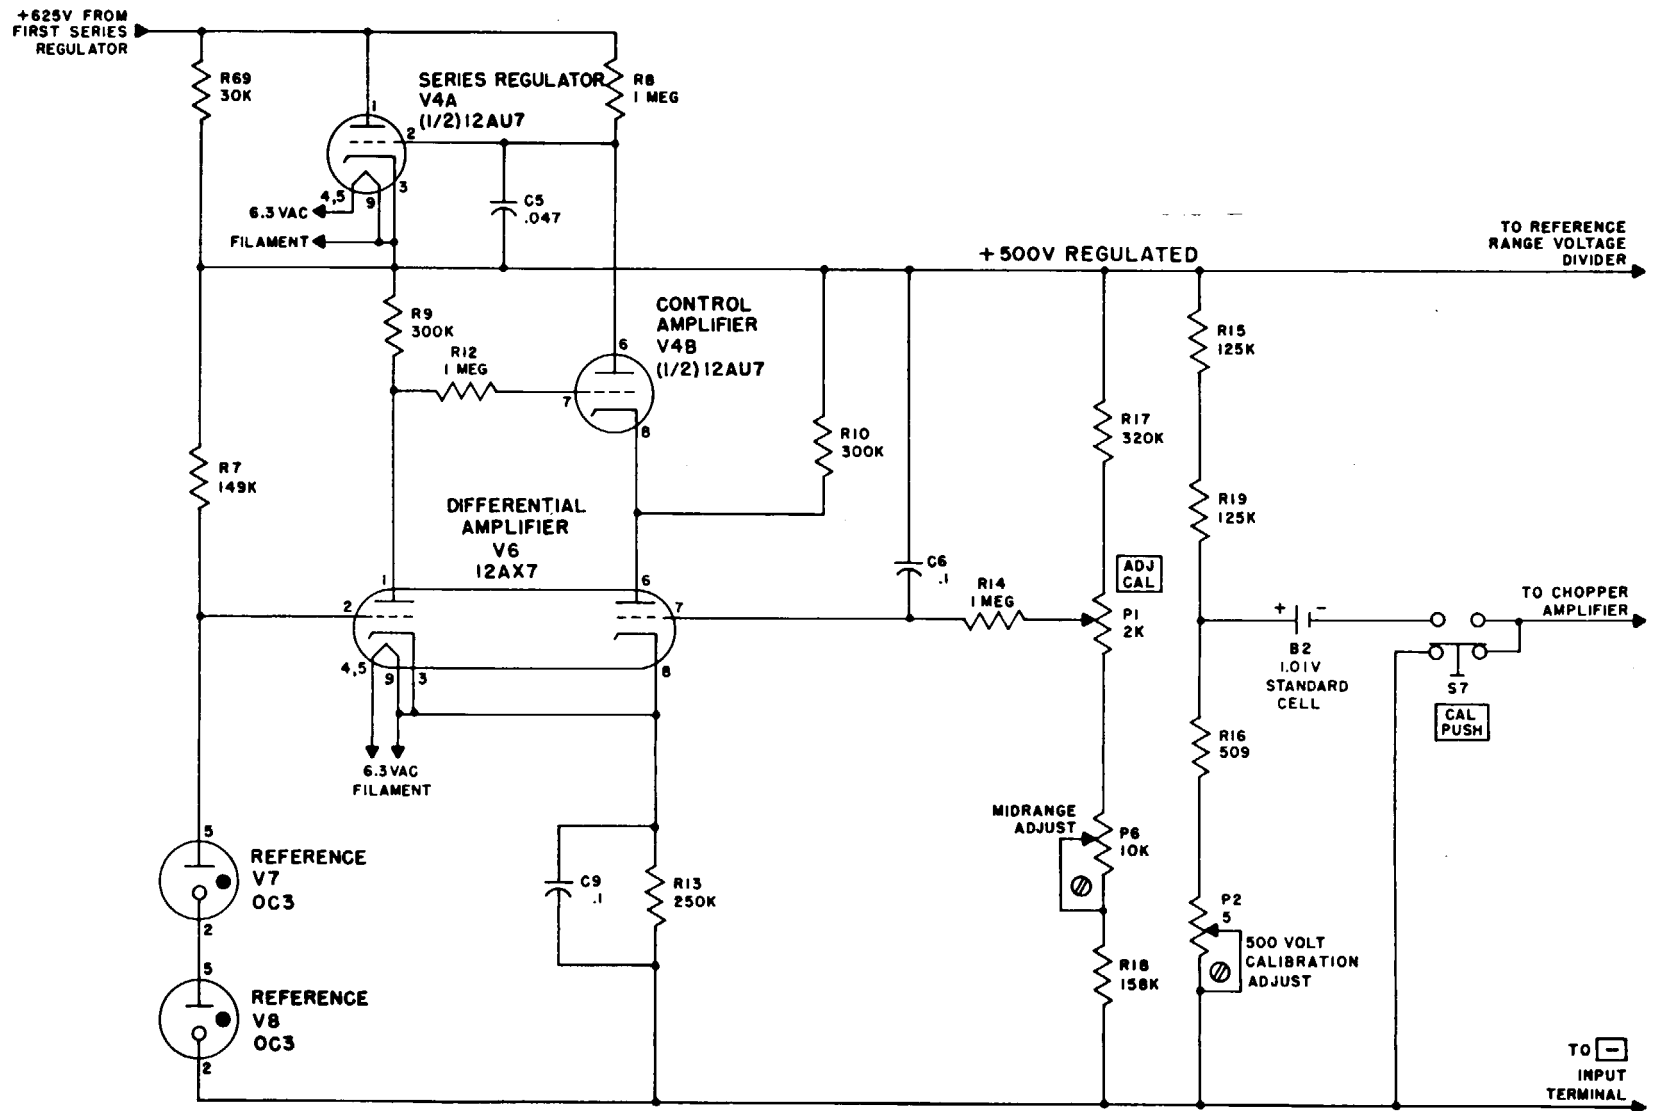

Figure 4-8. 0- to 500-volt reference power supply, second series regulator, schematic diagram.
c. *Second Series Regulator* (fig. 4-8). The second series regulator consists of series regulator tube V4A, differential amplifier tube V6, control amplifier tube V4B, and reference tubes V7 and V8. The plate voltage for tube V4A is obtained from the +625-volt output of series regulator tube V2. The grid voltage for tube V4A is direct-coupled from the plate of tube V4B. The plate load for tube V4B is resistor R8. The grid voltage for tube V4B is coupled from the plate (pin 1) of tube V6 through resistor R12. Resistors R9 and R10 are plate load resistors for dual-triode tube V6. The cathode bias for both triodes of tube V6 is developed by resistor R13 and capacitor C9. Differential amplifier tube V6 develops an output voltage when a difference exists between the reference voltage obtained from tubes V7 and V8, and a sample of the output voltage coupled through R 14 from voltage-divider network R17, ADJ CAL P1, P6, and R18. Assume
d. *Calibration Circuit* (fig. 4-8). The calibration circuit for the 500-volt reference power supply consists of calibration voltage-divider resistors R15, R19, R16, and 500-volt calibration adjust potentiometer P2, and standard cell B2. The calibration circuit is used when VOLTS RANGE switch S8 (fig. 9-5) is set to CAL, and CAL PUSH switch S7 is depressed.